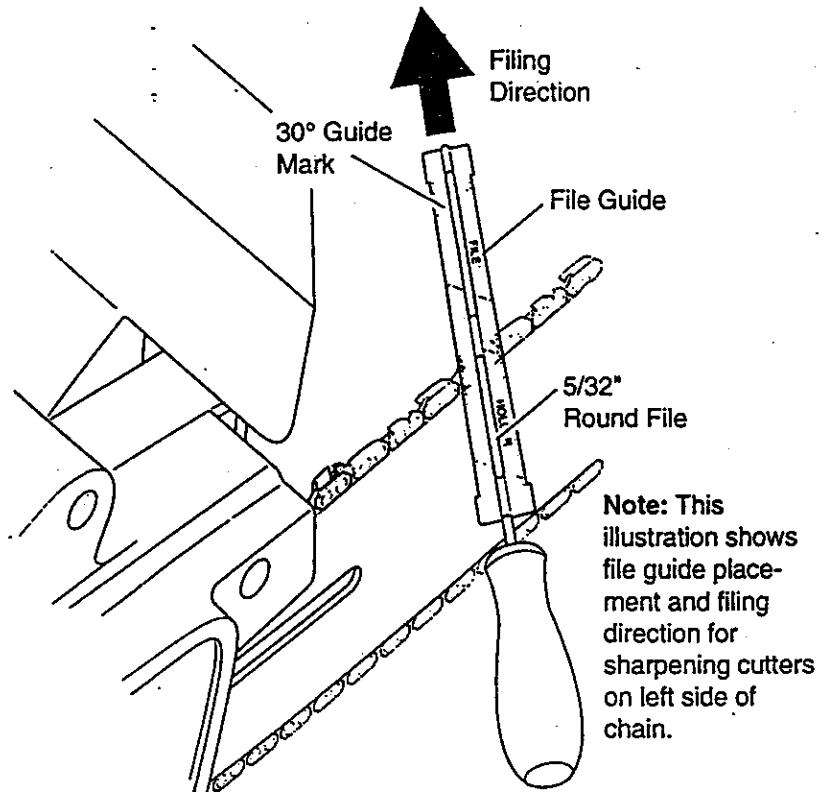

Figure 20 - File and File Guide Placement On Chain
3. Press 5/32" round file (attached to file guide) into groove between top plate and depth gauge on chain. File guide should rest on both top plate and depth gauge (see Figures 20 and 21). *Note:* File at midpoint of guide bar.
4. Hold file guide level. Make sure 30° mark on file guide is parallel to center of guide bar (see Figure 20). This will insure that you file cutters at 30° angle.
5. File from inside towards outside of cutter until sharp. Only file in this one direction (see Figure 20). *Note:* Two or three strokes with file should sharpen cutter.